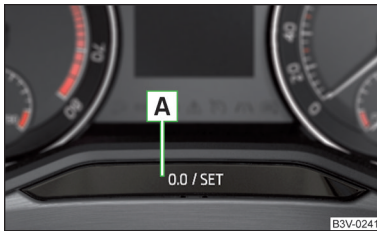

Fig. 27
» Press button **A** » Fig. 27 on page 31.
- » Press and hold the button **A** » Fig. 27 until the **Time** is shown in the display.